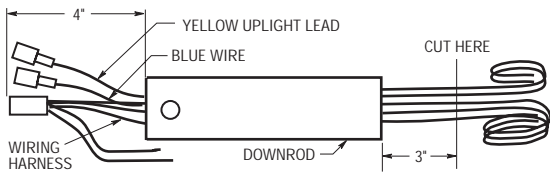

Figure 2A
2. Push the wiring harness connector (supplied with the SW375 Receiver), the connector on the blue wire (supplied with the SR330 or SW350 Control), and the connector on the yellow upright lead (supplied with the fan) through the downrod until they extend about 4" out of the pipe (Figure 2A).
3. Cut the harness wires approximately 3" from the end of the downrod (Figure 2A). Strip insulation 1/2" from end of wires.